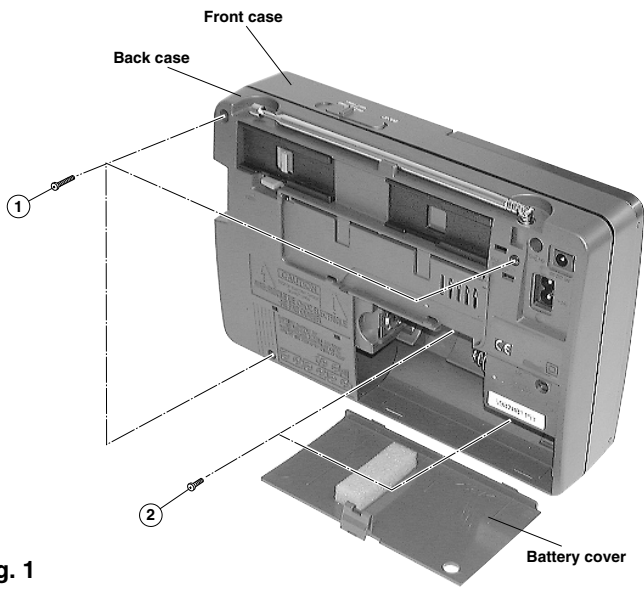

Fig. 1
1. Removal of Back Case (Fig. 1)